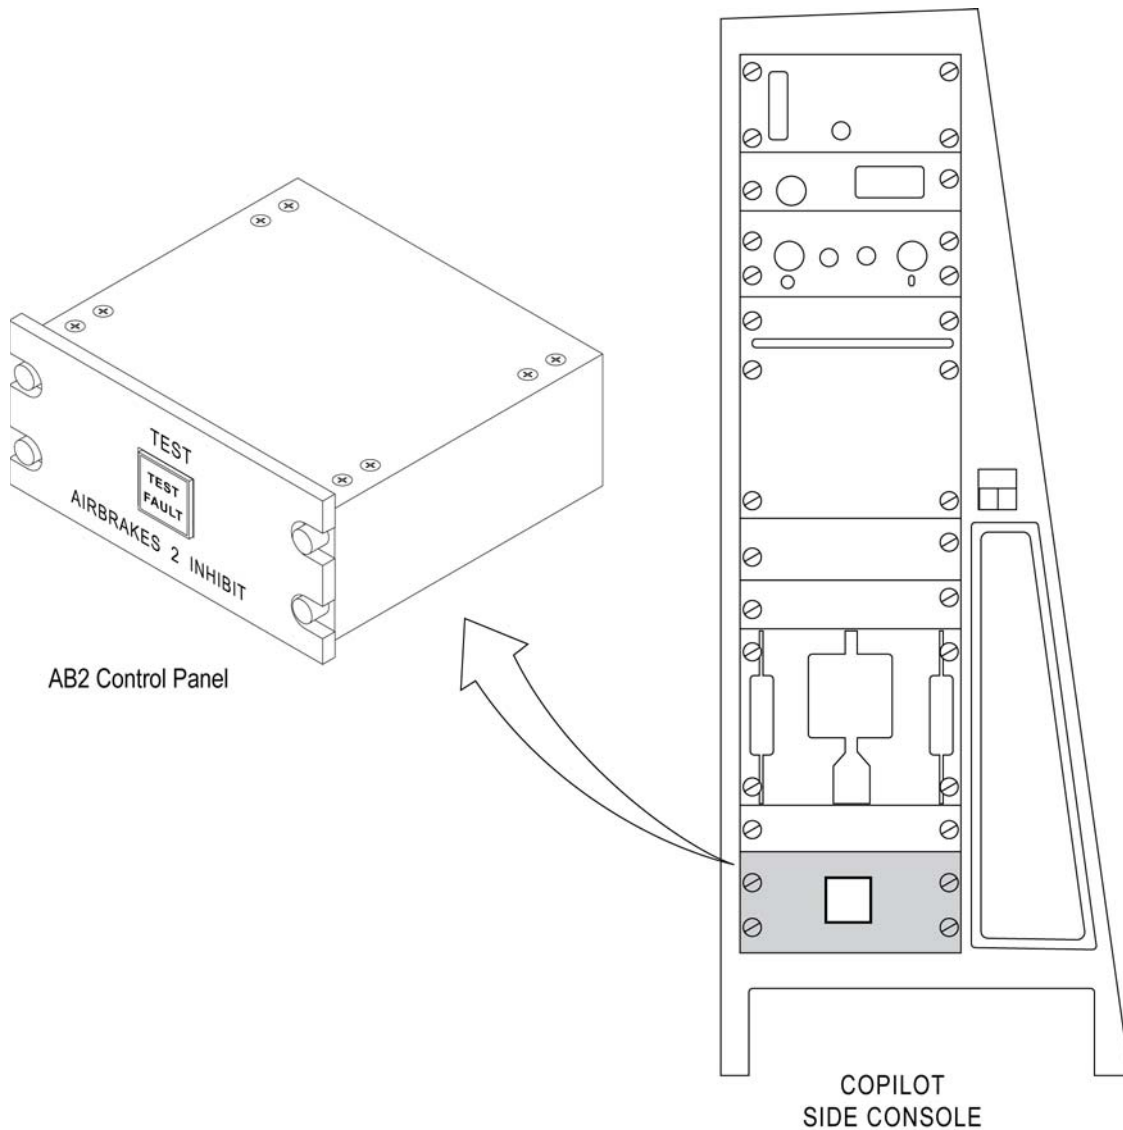

FIGURE 1: AB2 CONTROLS AND INDICATORS
- (1) Preliminary Steps (Configure aircraft for test)
- (2) AB2 Inhibit Functional Test
- (3) Final Steps (Configure aircraft for normal operation)
- B. Preliminary Steps (Refer to Figure 1)